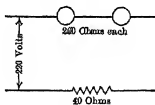

FIG. 26. The two lamps and coil are in series across a 220-volt line.
**Example 1.** (a) What is the resistance of the circuit in Fig. 26?